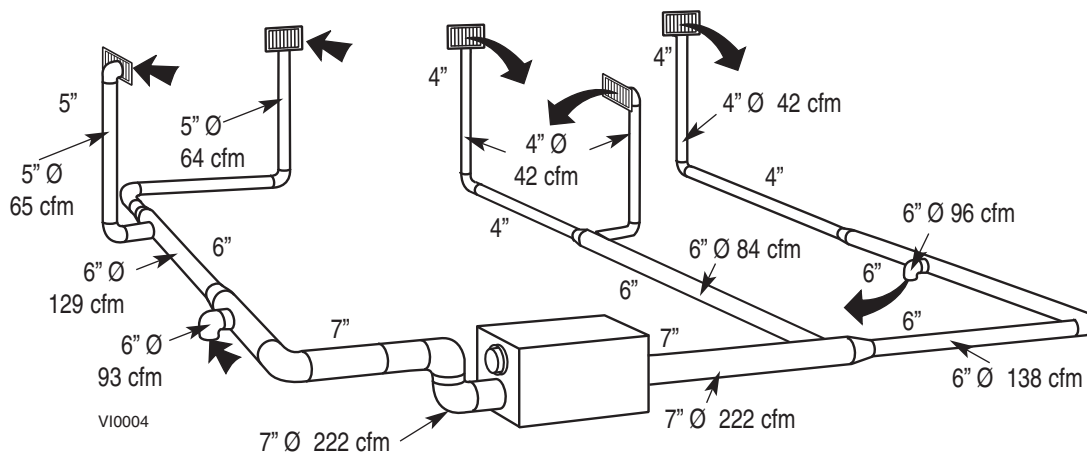

figure 8
6.3.2 Example of a design for a fully ducted system for a unit having a high speed performance of 222 cfm (see figure 8).